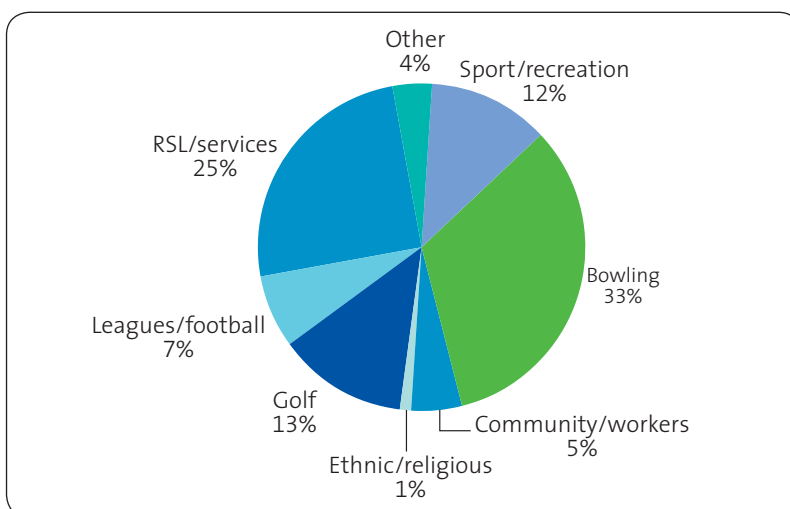

Figure 2 – The types of clubs in NSW (Allen Consulting Group, 2004)
- Figure 2** – The types of clubs in NSW